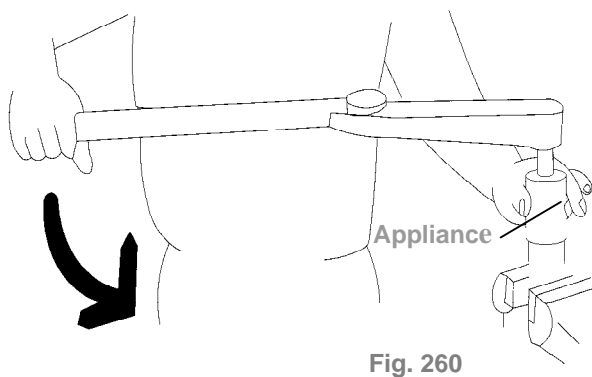

Fig. 260
4.1 Fix the pulse unit by a vise. Use the appliance (see Chart 41) to loosen the lock nut on the pulse unit, Fig. 260.